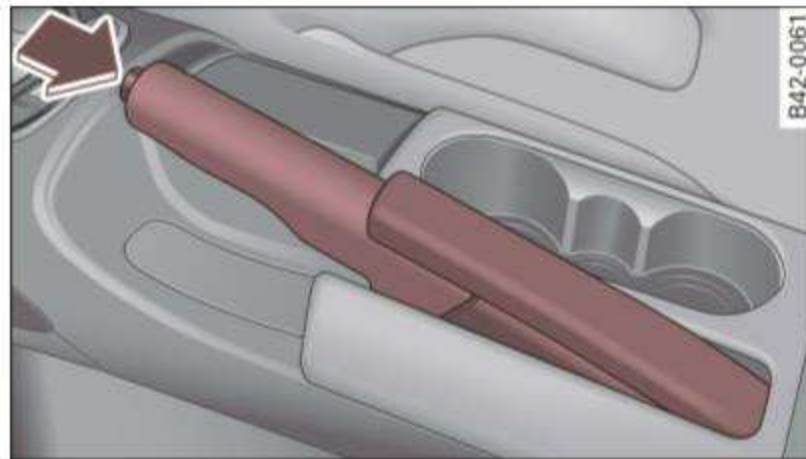

Fig. 67 Center console: Parking brake set
- Pull the parking brake lever up slightly *and* press the release button at the same time ⇒ fig. 67 - arrow -.